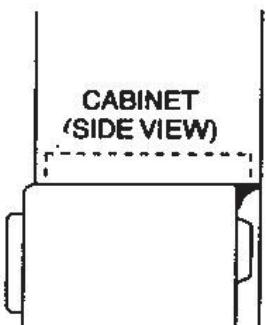
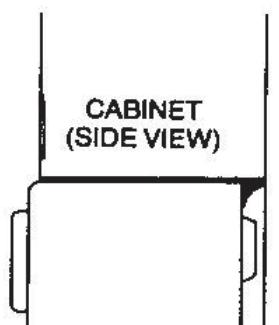

FIG. 2
FIG. 3
- This method is for mounting your microwave oven under a cabinet (Fig. 2, 3, 4, 5, 6) and uses the template, in-cabinet mounting straps, rear brackets (if required) and one set of screws.
- A flush installation, as shown in Fig. 5, depends on microwave oven and cabinet depth. The microwave oven may extend beyond the front surface or the cabinet as shown in Fig. 2 and Fig. 3.